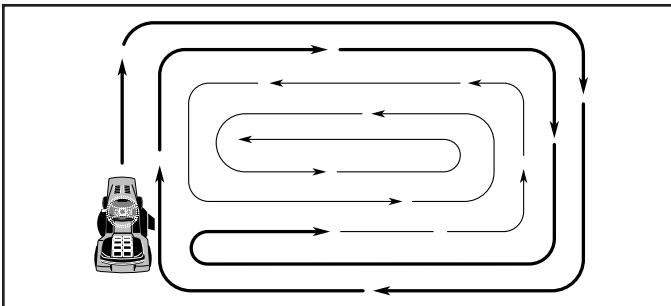

FIG. 13A
- When mowing large areas, start by turning to the right so that clippings will discharge away from shrubs, fences, driveways, etc. After one or two rounds, mow in the opposite direction making left hand turns until finished (See Fig. 13A).